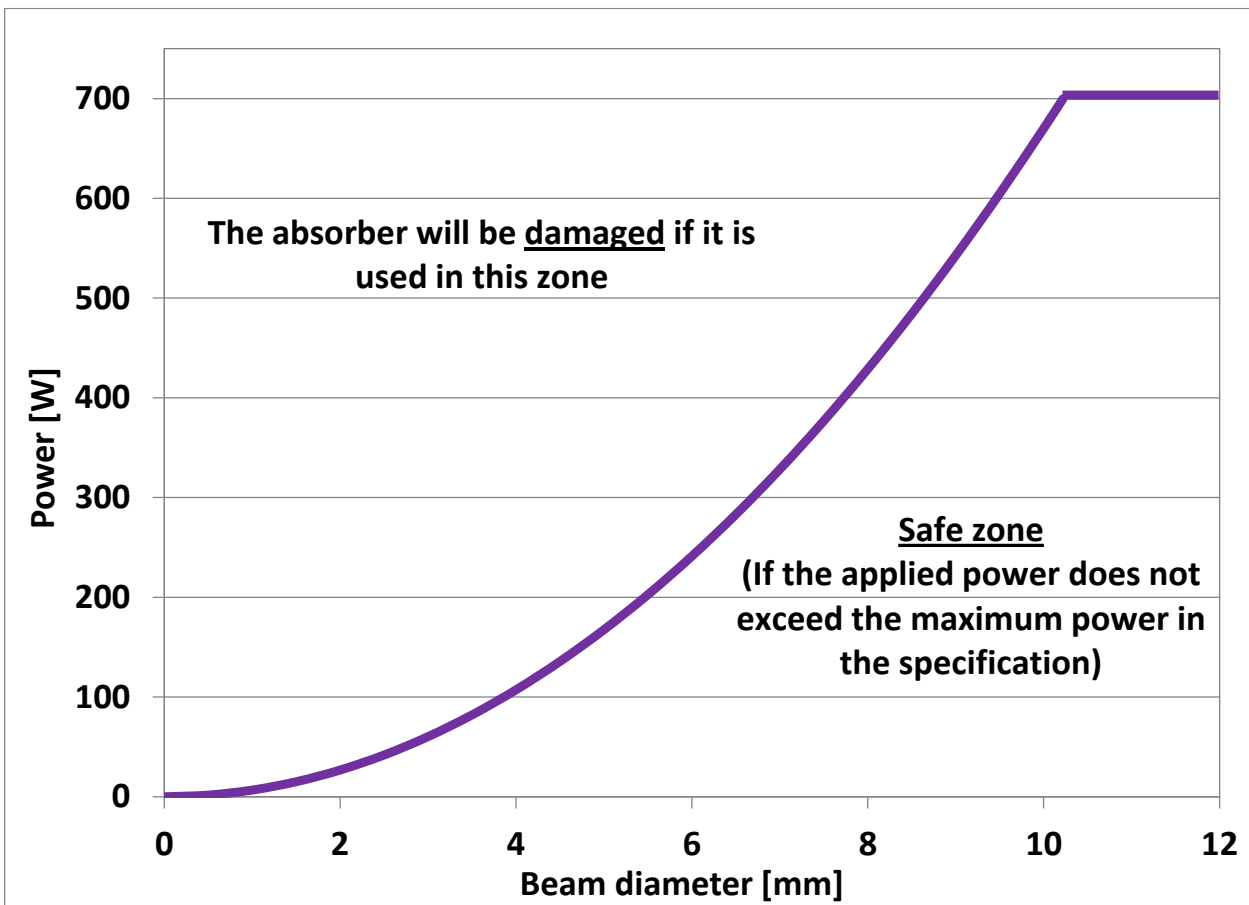

FIG. 1-10 MINIMUM BEAM SIZES FOR UP WITH H-TYPE ABSORBER AT 1.064 μ M.
1. Required specifications for customer-supplied back module are given in Fig 1-10 through 1-12. Note that tapped holes must be electrically conductive, and that there has to be at least bare spots to allows electrical contact with detector (see point 5.).